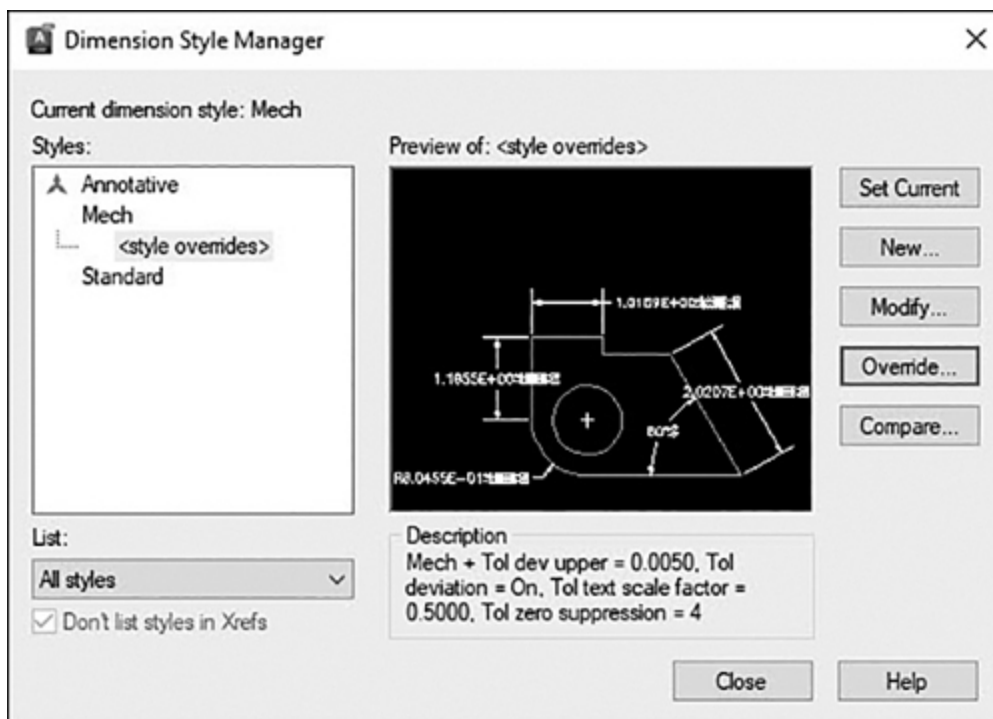

Figure 13-68
- 3** In the **Tolerances** tab, set the **Method** to **Deviation**. Set the **Upper value:** to **.005** and the **Lower value:** to **0**. Set the **Scaling for height** to **.5** and turn on the **Leading** zero suppression. Choose **OK** to finish creating the overrides. AutoCAD returns you to the **Dimension Style Manager** dialog box. You should see the override listed as a child style of the **Mech** dimension style (see Figure 13-68). Choose **Close** to end the **DIMSTYLE** command.